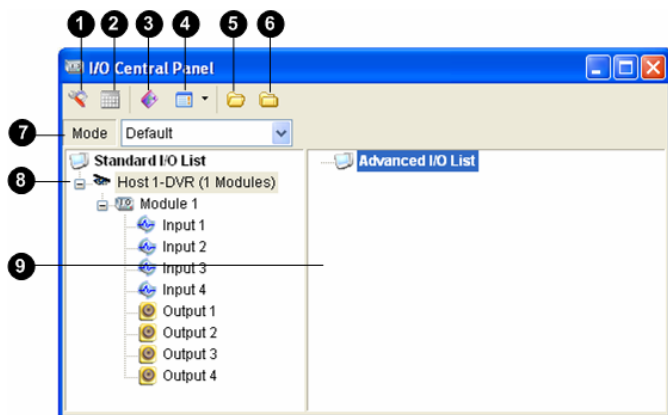

Figure 4-36
[Display Setting] You can define the nature of I/O devices by colors. Note that the setting only affects the **Detail** style of the Advanced I/O List (No. 4, Figure 4-36).
1. Click the **Mode** drop-down list (No. 7, Figure 4-36), and select **More Edit**. This dialog box appears.
- To start the mode schedule, click the **Mode Schedule** button (No. 2, Figure 4-36), and then select **Mode Schedule Start**.
- To open the Quick Link window, click the **Toggle Quick Link** button. (No. 3, Figure 4-36).
1. To switch to the Icon style, click the **Advanced I/O List Style** button (No. 4, Figure 4-36) and then select **Icon**.